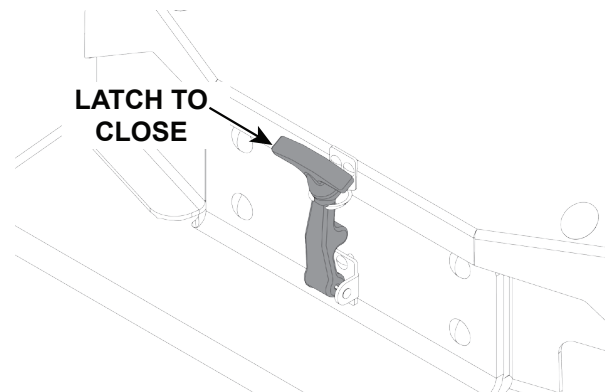

Figure 6-7. Closed Hood Latch
1. Lower the hood and secure it closed with the rubber tie-down latch. See Figure 6-7.